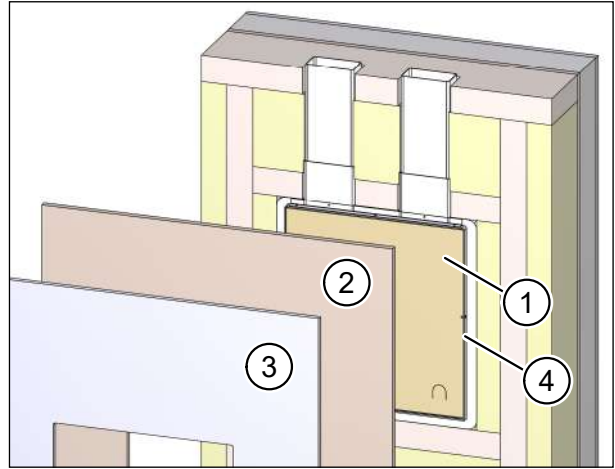

Fig. 58: Cladding the installation kit and flat ductwork / flexible pipes on the inside
- ▶ Make sure that the plaster cover (item 1 in Fig. 58) is seated in the wall box.
- ▶ Make a cutout with the same dimensions as the plastering trim (item 4 in Fig. 58) in the OSB board (item 2 in Fig. 58) and the plasterboard (item 3 in Fig. 58).